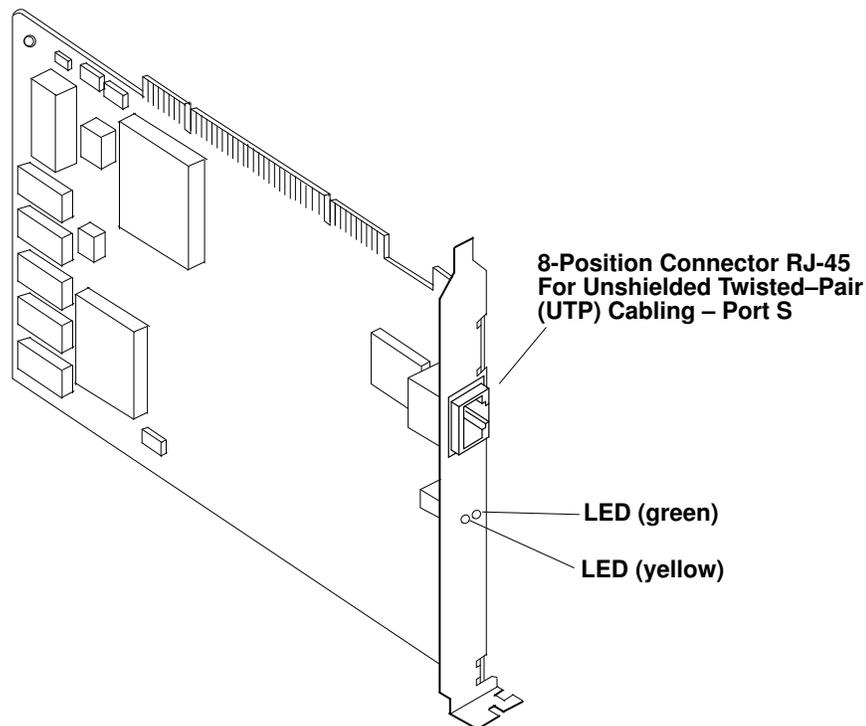

Figure 2. FDDI UTP Single Ring Adapter (Type B5-3 PCI).
- Figure 2. FDDI UTP Single Ring Adapter (Type B5-3 PCI). 1-2